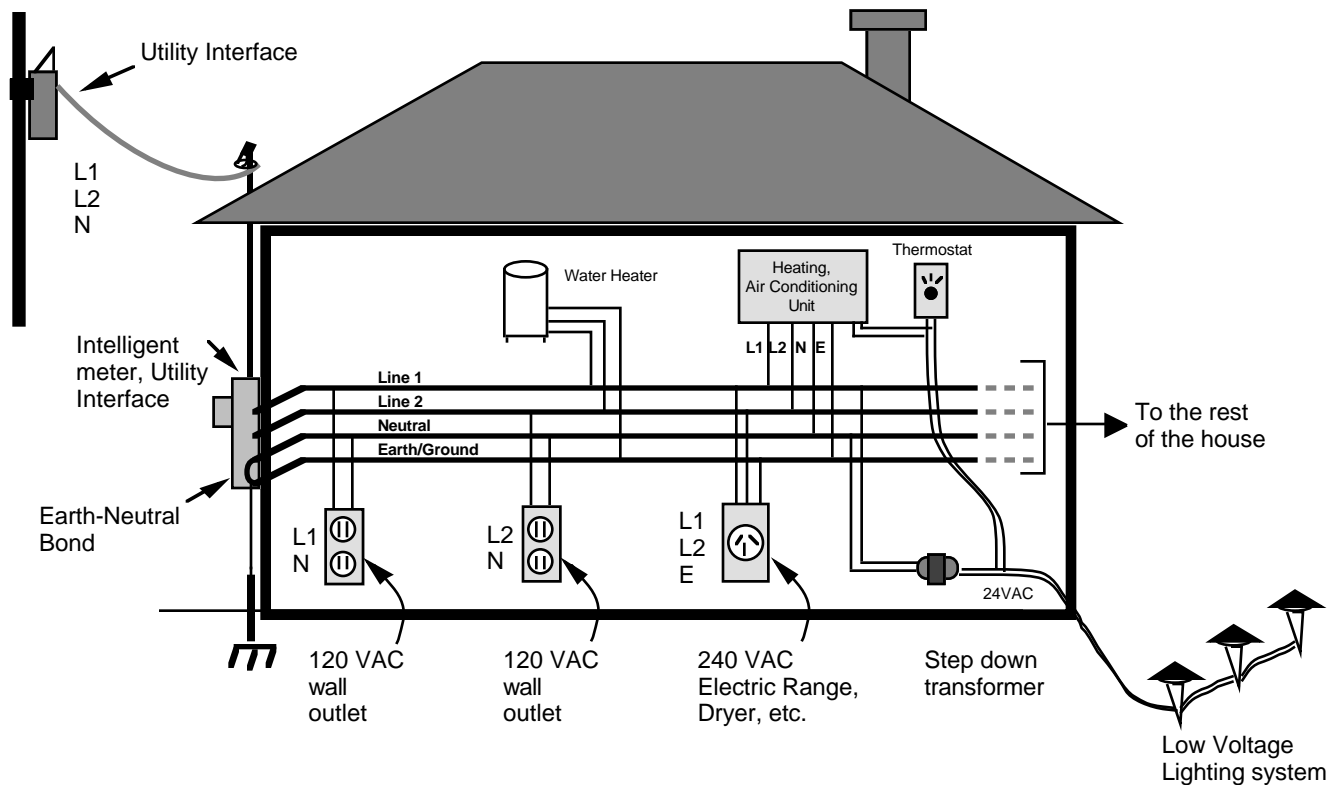

Figure 5 Power Line Wiring In A Typical House
Figure 5 illustrates the power mains wiring in a typical house, including the voltages typically found at normal outlets and wiring devices. This house has two power phases, Line 1 (L1) and Line 2 (L2), also referred to as two poles of a single phase, and a Neutral (N) line. These are brought into the house from the utility's distribution transformer outside the house. L1 and L2 are 180° offset and 120VAC each with respect to N. The L1-to-L2 voltage is 240VAC.